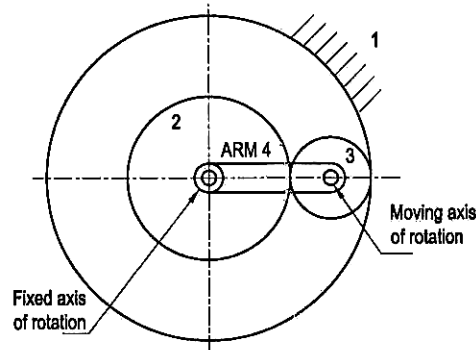

Figure 4
6. a) Consider that the arm 4 of the following figure 4 rotates CCW at 50 rad /sec. Given: Teeth of gear 1 = 80, Teeth of gear 2 = 40, Teeth of gear 3 = 20. Determine angular speed of gear 2 (figure 4).